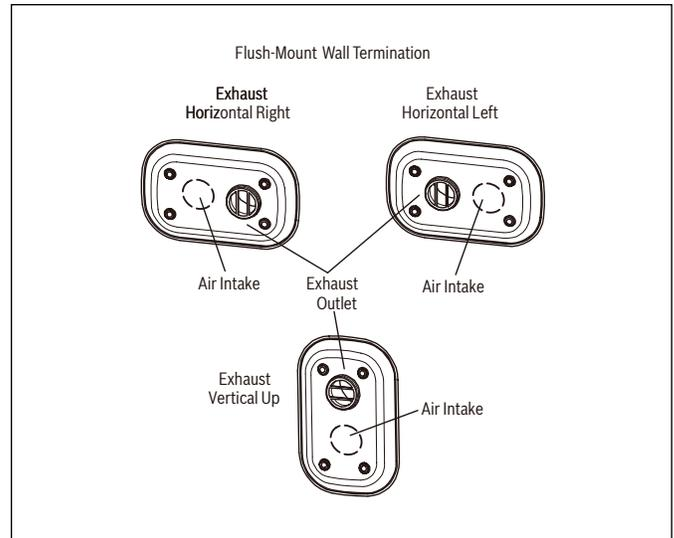

Figure 37
2. Exhaust vent pipe can be located horizontally left, right, or vertically up from the air intake pipe. See Figure 37.